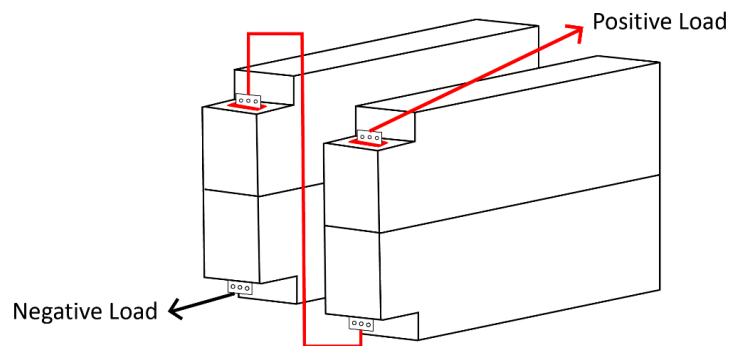
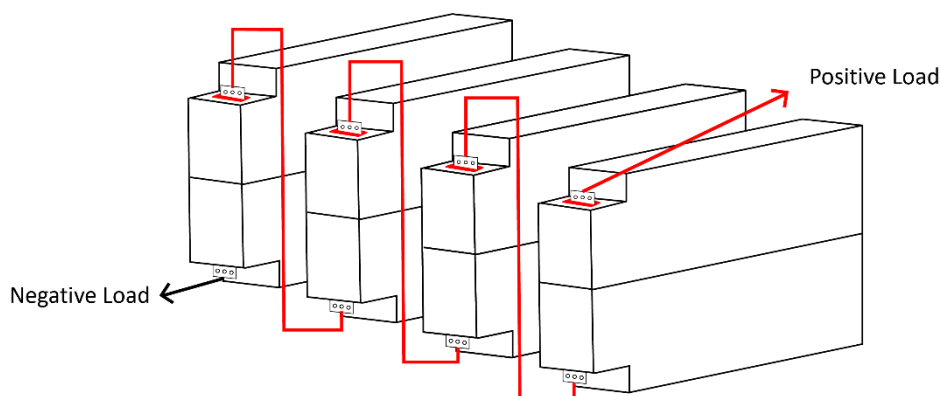

Figure 4.1: Two GC3 Batteries Connected in Series to create a 24V 270Ah Battery Bank
Figure 4.2: Four GC3 Batteries Connected in Series to create a 48V 270Ah Battery Bank
7. Repeat steps 3-6 for additional batteries, but **DO NOT** exceed 48V. An example of a correct series connection can be found below in Fig. 4.1 and Fig. 4.2.